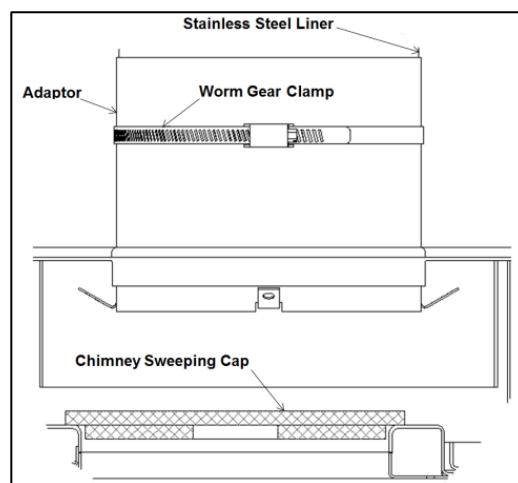

Figure 17: Liner Adaptor Installation
- Reposition the chimney sweeping cap back in the chimney sweeping cap hole of the baffle (refer to Figure 17).